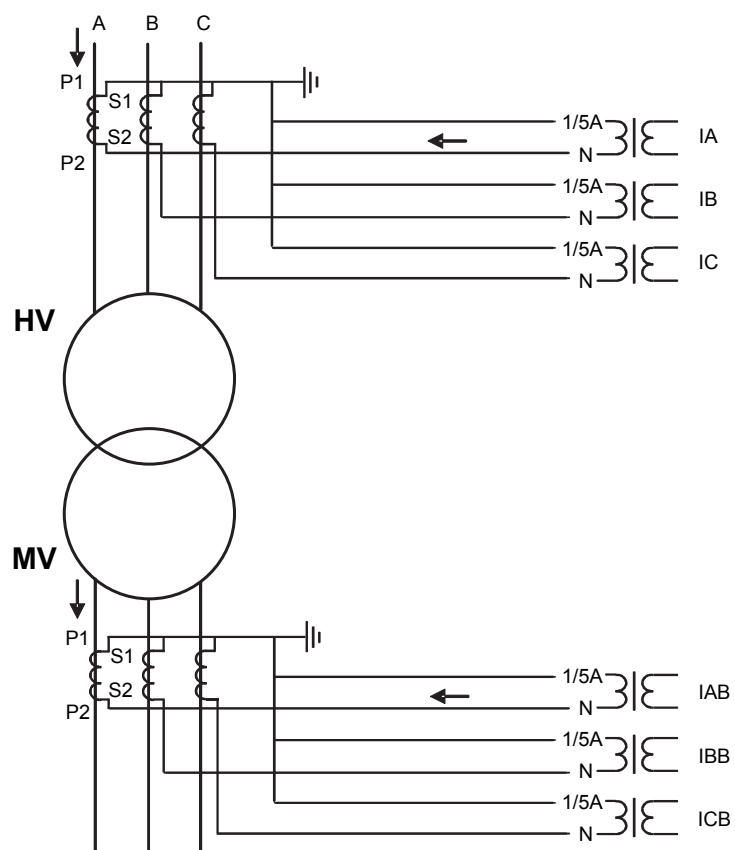
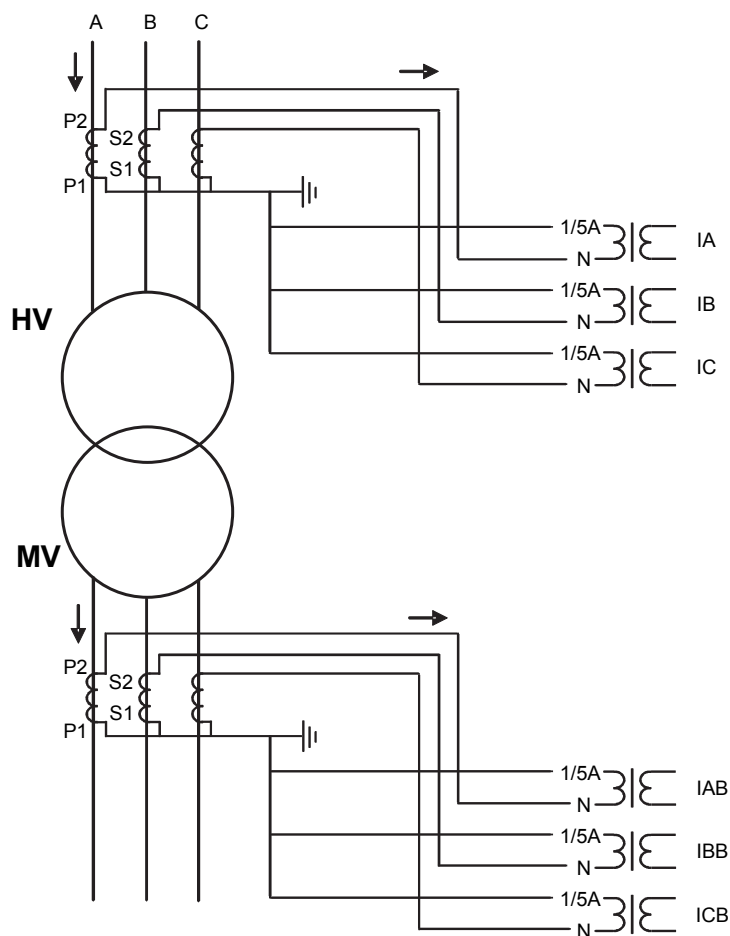

Figure 264: Connection of current transformers of Type 2 and example of the currents during an external fault
Figure 265: Alternative connection example of current transformers of Type 2
- If the positive directions of the winding 1 and winding 2 protection relay currents equate, the *CT connection type* setting parameter is "Type 2". The connection examples of "Type 2" are as shown in Figure 264 and Figure 265.